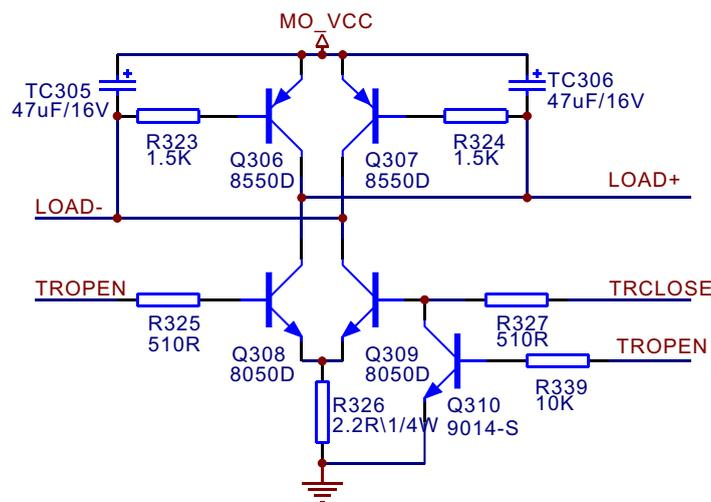

Figure 3.2.4.1 Open/close door circuit diagram
1. Open/close door circuit diagram is shown in the figure 3.2.4.1: